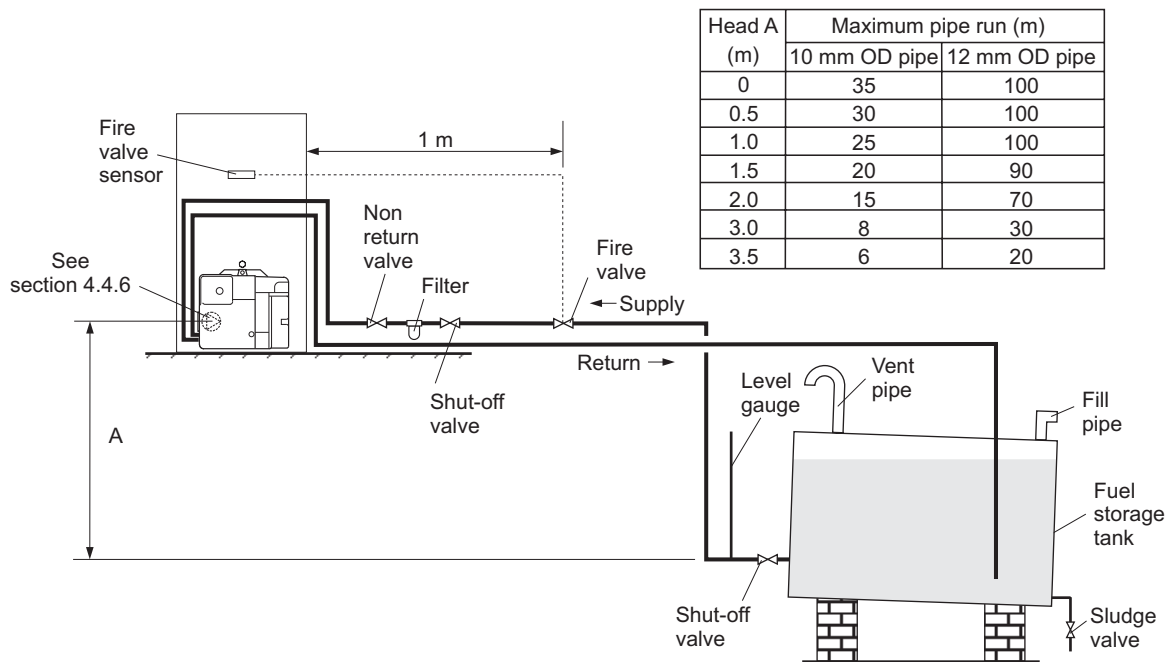

Fig. 3 - Two pipe system
### 4.4.4 Two pipe system - (See Fig. 3)
- 1 When the storage tank outlet is below the burner, the two pipe system should be used. The pipe runs should be as shown in Fig. 3. The return pipe should be at the same level in the tank as the supply pipe, both being 75 to 100 mm above the base of the tank. The pipe ends should be a sufficient distance apart so as to prevent any sediment disturbed by the return entering the supply pipe.
- 4 To be used with a two-pipe system, the burner **must** be fitted with an additional flexible fuel hose (a flexible fuel hose (600 mm) and  $\frac{3}{8}$ " to  $\frac{1}{4}$ " BSP male adaptor are available to purchase from Grant Engineering (UK) Limited), Part No. RBS104. See Section 4.4.6.